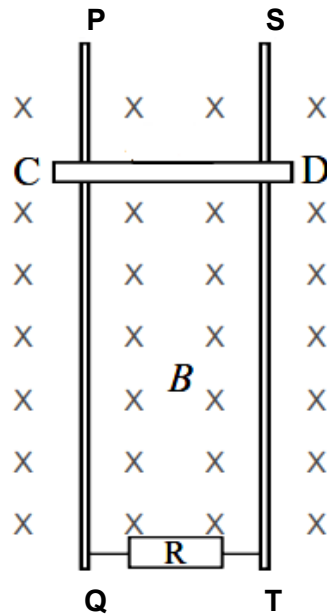

Fig. 1.1
- 1 Fig. 1.1 below shows a simple electric generator that can convert mechanical energy into electrical energy. A metal rod CD of mass M and is able to slide downwards while maintaining contact with two long smooth vertical metal rails PQ and ST . The rods are connected at the bottom by a resistor R , and the whole device is in a uniform magnetic field B perpendicular to the page.